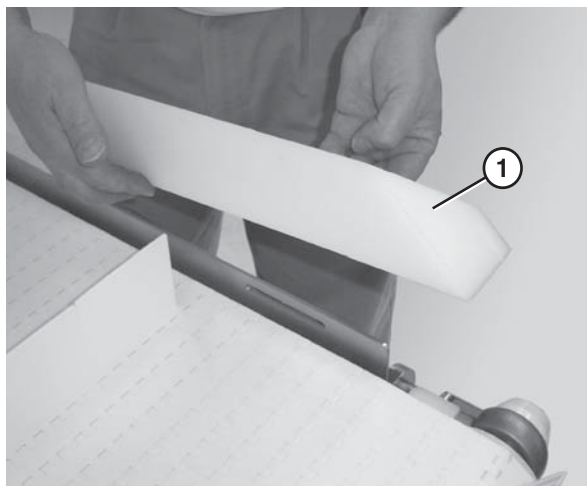

Figure 42
2. Remove the guide (Figure 42, item 1).